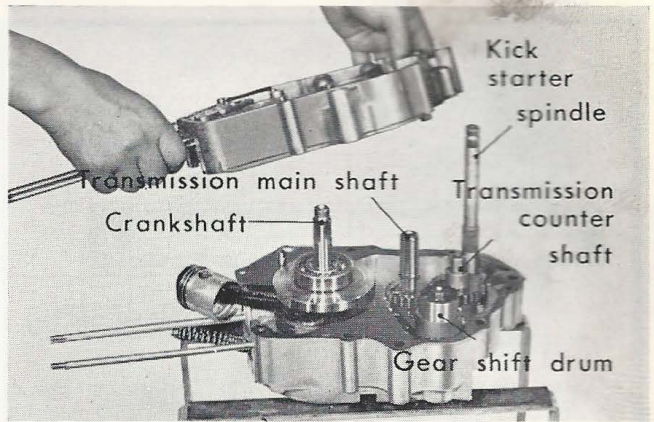

Figure 3-78. Assembling R crankcase
- Check to make sure that the gasket and the two dowel pins are installed on the left crankcase before assembling the right crankcase to it. (Fig. 3-78)